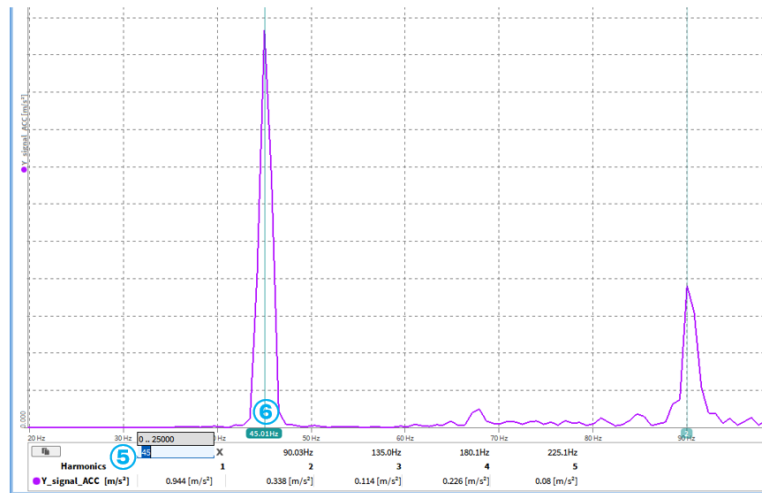

Fig. 8.53: Changing the 1st Harmonics cursor position
The cursor position can be changed by entering a new frequency for the first harmonic (see ⑤ in Fig. 8.53). It is also possible to move the first harmonic cursor with the left mouse button (see ⑥ in Fig. 8.53). The position of the higher harmonics is automatically adjusted.